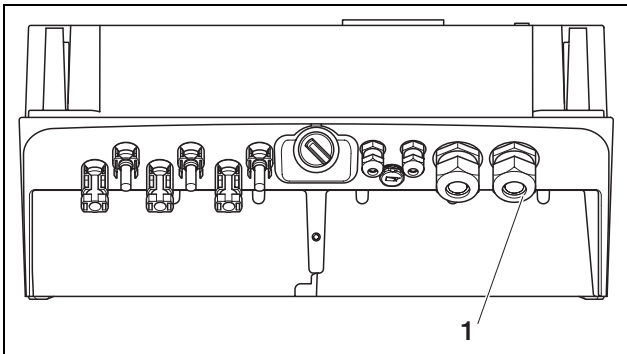

Fig. 8: Connections on the housing
- Unscrew the cable screw connection for the mains cable (1 in figure 8).